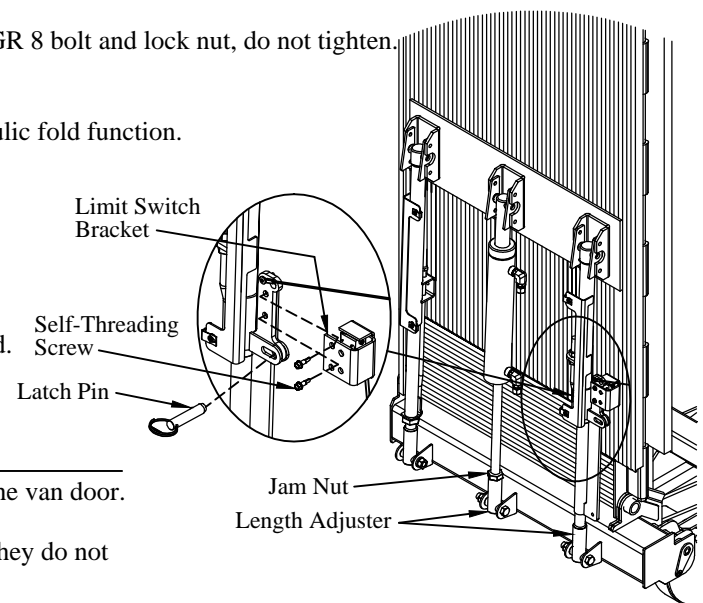

Figure 20: Platform latch and adjustment.
- 4. Install** the limit switch bracket on the passenger side support arm with two (2) #12 self-threading screws. See Figure 20 for bracket shipping location.
- 3. Support** the platform to keep it from falling or hitting the van in the next steps (Figure 20).